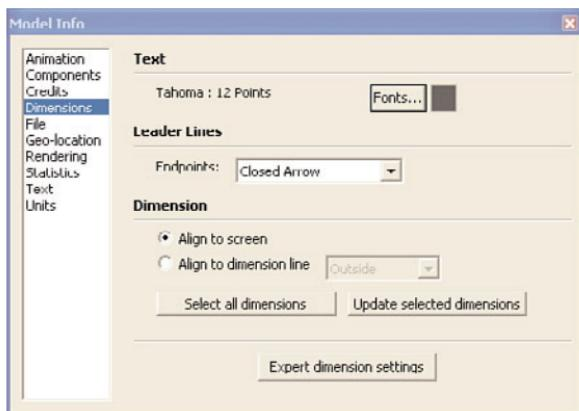

FIGURE 10.8 The Dimensions settings dialog.
9. Click the **Dimensions** item at the left in the Model Info dialog box. This opens the Dimensions settings, as you see in Figure 10.8.